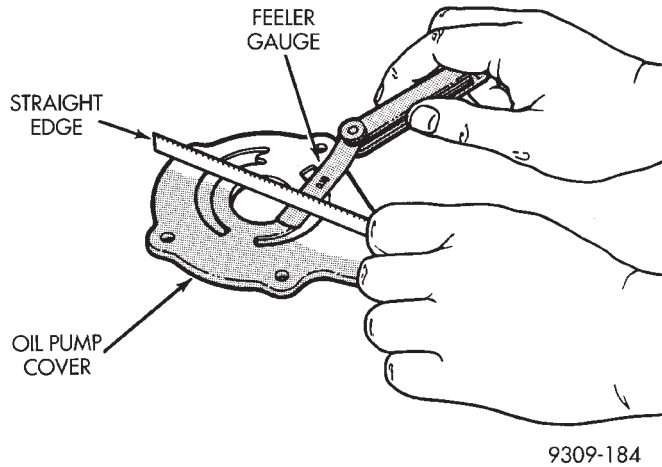

Fig. 93 Checking Oil Pump Cover Flatness
(1) Clean all parts thoroughly. Mating surface of the oil pump housing should be smooth. Replace pump cover if scratched or grooved.
(2) Lay a straightedge across the pump cover surface (Fig. 93). If a 0.025 mm (0.001 inch.) feeler gauge can be inserted between cover and straight edge, cover should be replaced.